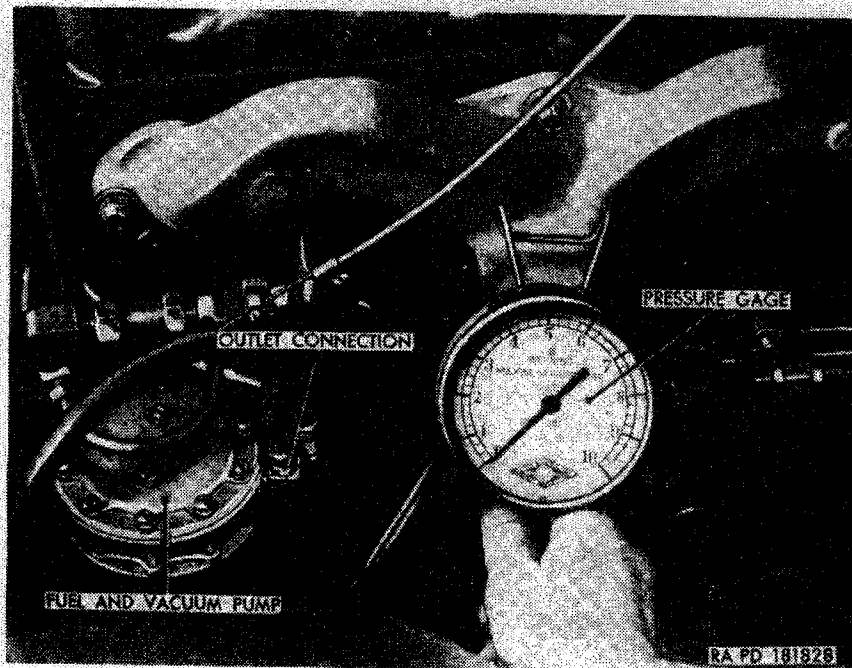

Figure 35. Testing fuel pump pressure.
- (2) *Fuel tank empty.* Check fuel gage for level in fuel tank and refuel if necessary.
- (3) *Fuel filter clogged.* Remove the fuel filter assembly (par. 138a) and replace element (par. 139). Make sure connections are tight.
- (4) *Fuel line leak.* Check all fuel lines and fittings carefully for leaks (par. 142).
- (5) *Fuel pump pressure incorrect.* Disconnect fuel line from outlet side of fuel and vacuum pump. Install a pressure gage (fig. 35) in the fuel and vacuum pump outlet. With ignition switch turned off, crank engine with starter until the pointer on the pressure gage reaches a maximum reading. Fuel pump pressure should be between 4½ and 5 psi. If pressure is incorrect, replace the fuel and vacuum pump assembly (par. 137). If pressure of new pump is incorrect, notify ordnance maintenance personnel.